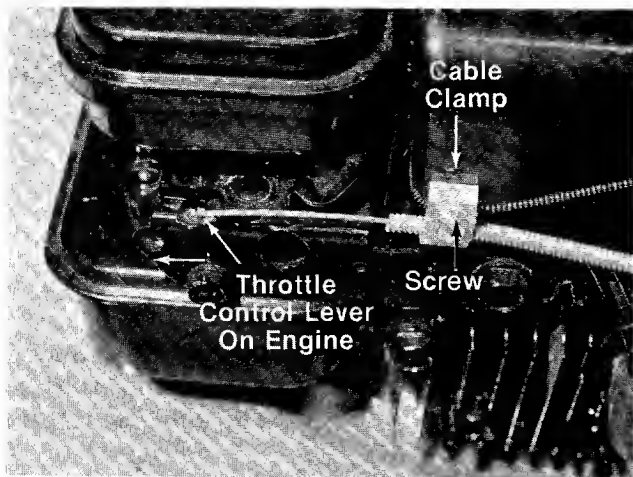

FIGURE 6.
9. Push the throttle control lever on the engine to the full open position (as far toward the outside of the unit as it will go) as shown in figure 6.
11. Loosen (do not remove) the screw on the cable clamp shown in figure 6. Slip the control casing under the clamp. With the throttle lever on the engine still in the full open position, tighten the screw to secure the throttle control cable.
1. Loosen, but do not remove, the screw securing throttle control wire assembly at engine. See figure 6.